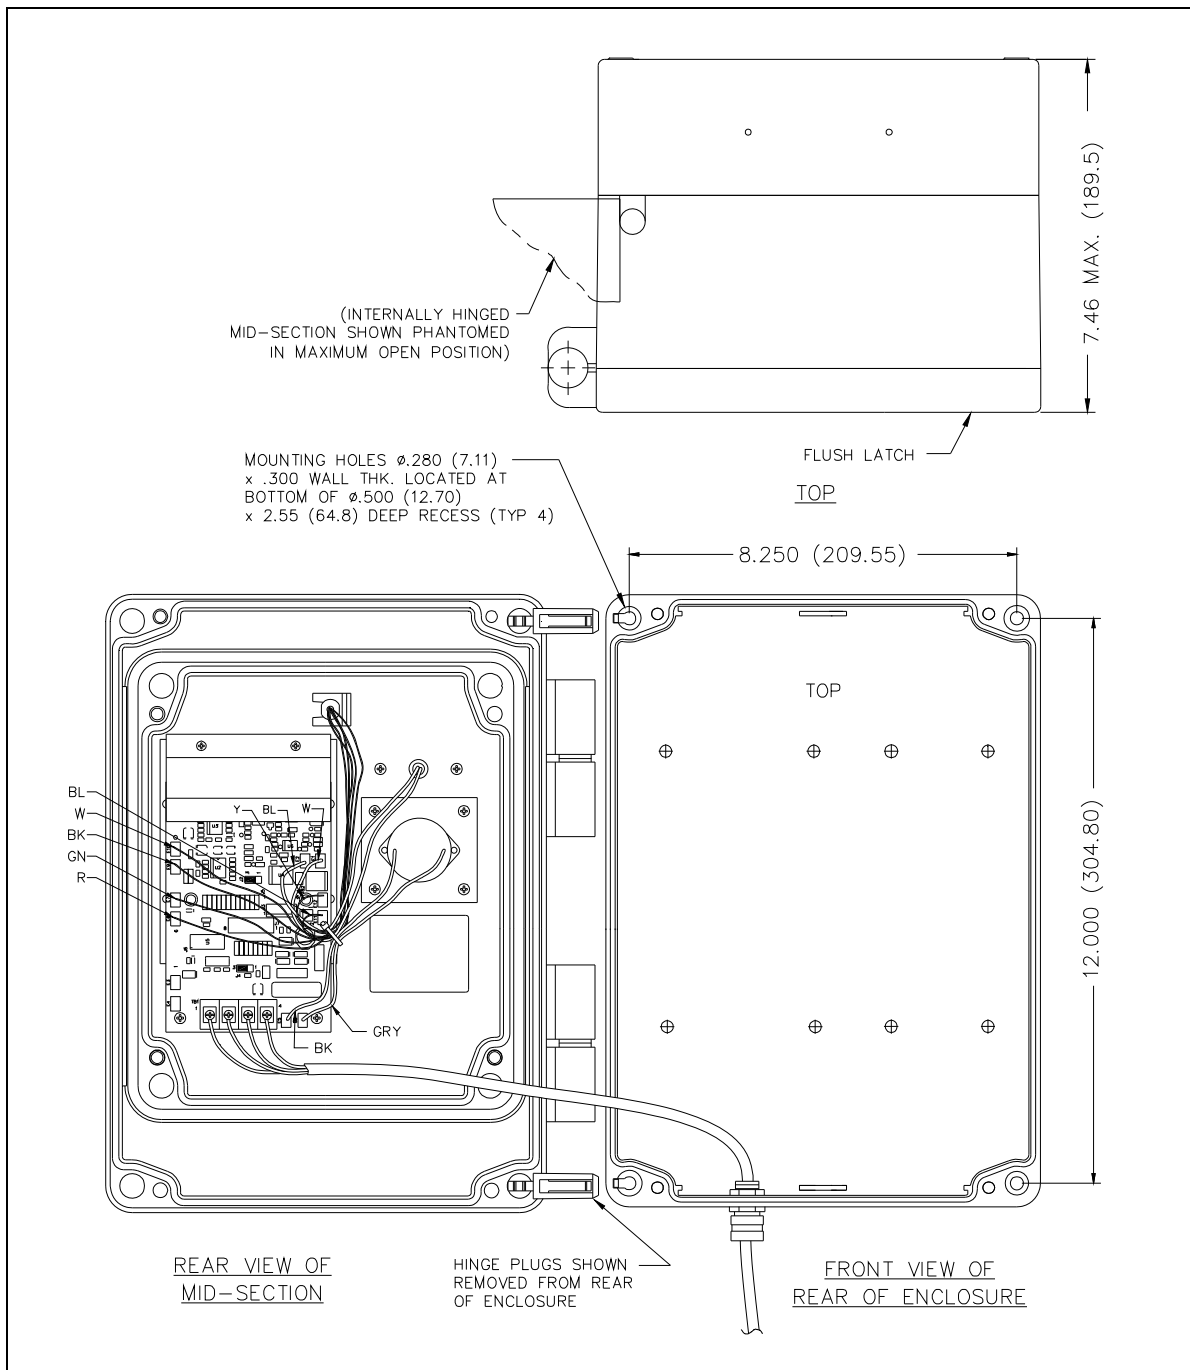

Figure 10. Model 257-001 Mounting Detail
3. Open the front half of the enclosure to the left until the length of the telephone cord inside the enclosure can be disconnected from the PCBA terminal strip, if connected (see Figure 10).
11. Mount the enclosure on the wall using four ¼-20 machine screws with nuts and washers or with four #14 wood screws of the appropriate length for the mounting surface (see Figure 10).